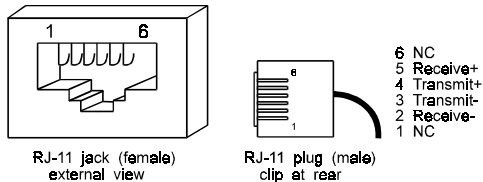

Figure 1. RJ-11 Pin Assignment
- RJ-45 jack, mounted directly (see *Figures 1 and 2*)
**Note:** When operating in a noisy environment, use shielded cables and connect the cable shield to "Ground". Ground is provided on the line connector (terminal block or RJ-11/45 connectors) for this purpose (see Figures 1 and 2 for Pin Assignment).